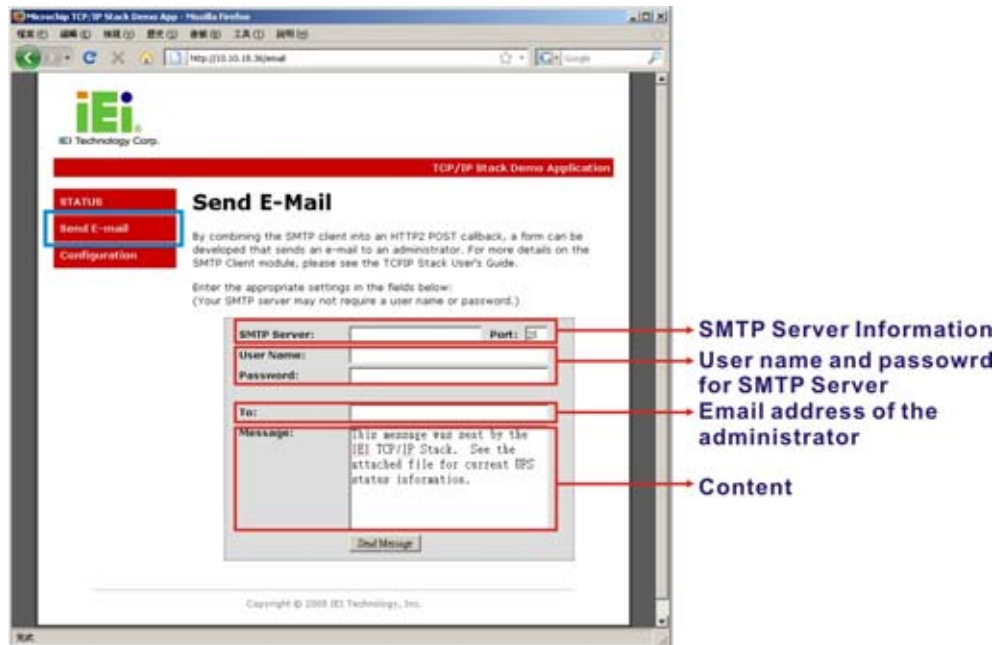

Figure 8-19: Remote Management Web Interface - Send Email
Step 13: To send an email to an administrator through the SMTP server, click Send E-mail button on the left. Fill out the information as indicated in **Figure 8-19**. Click the **Send Message** button to send the email.